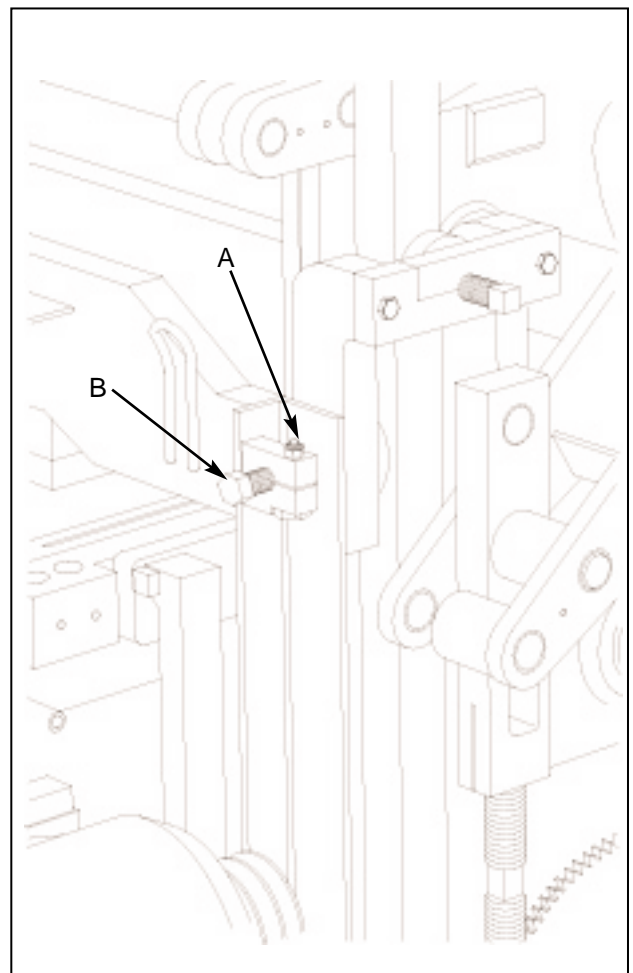

Figure 5.20 GUIDE LINER ADJUSTMENT SCREW. This figure has been simplified for illustration purposes
5.5.13 Now, make the following adjustments on the upper guide liners on the left hand side of the machine (see figure 5.20):